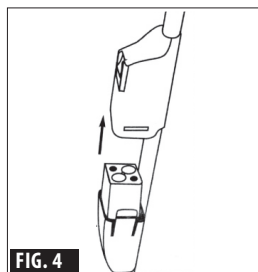

FIG. 4
- Insert the "Rechargeable Battery" down into the "Battery Compartment" located on the front of the pole until it locks into place (see FIG.4).